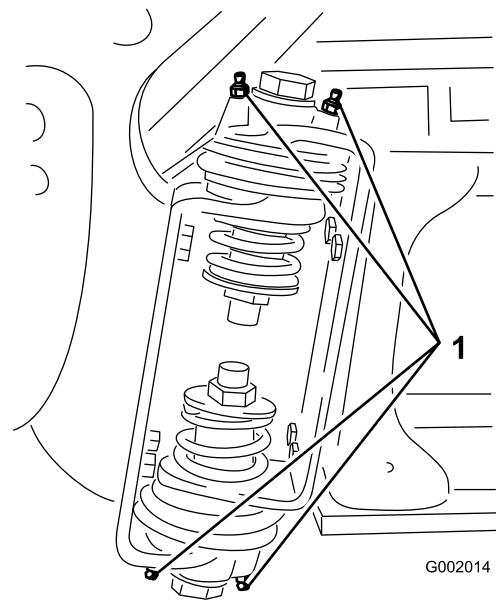

Figure 36
2. Pump grease into the bearing or bushing at each fitting Figure 36.